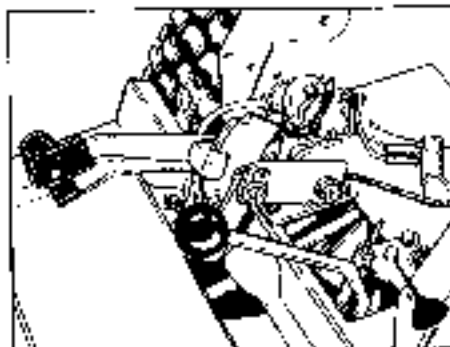

Figure 7. Lubricate the Pivot Points of the Gear Shift Lever
- Lubricate the tractor and mower as shown in figures 7 thru 13. When an oil can is pictured, wipe the area clean, apply a few drops of medium weight (SAE 30) oil and then wipe up any drips or spills. Where a grease gun is pictured, wipe the fitting clean, apply two or three shots of lithium base automotive grease, then wipe off excess grease. Keep oil off belts and pulleys.